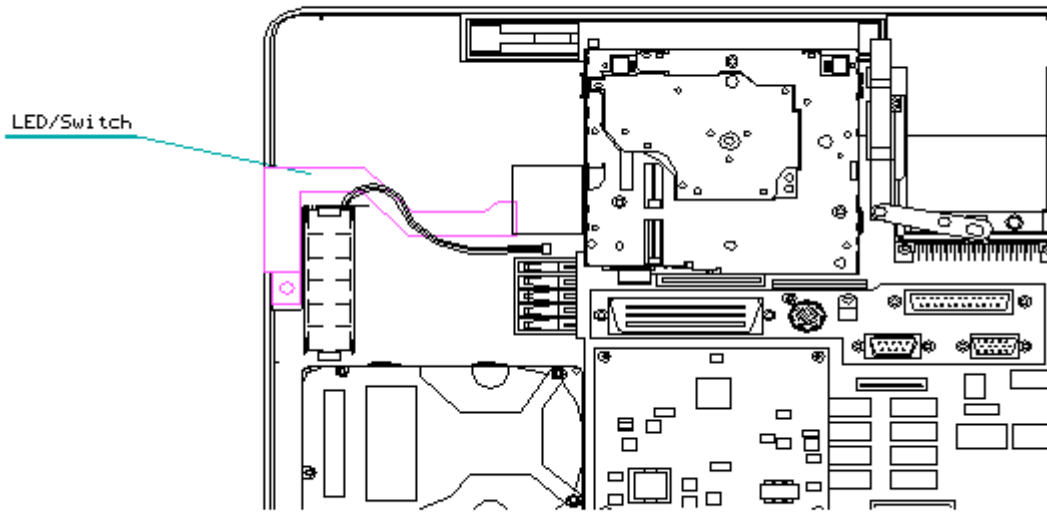

Figure 3-71. Connecting the LED/Switch Cable to the System Board
4. Connect the LED/Switch cable to the system board (Figure 3-71).